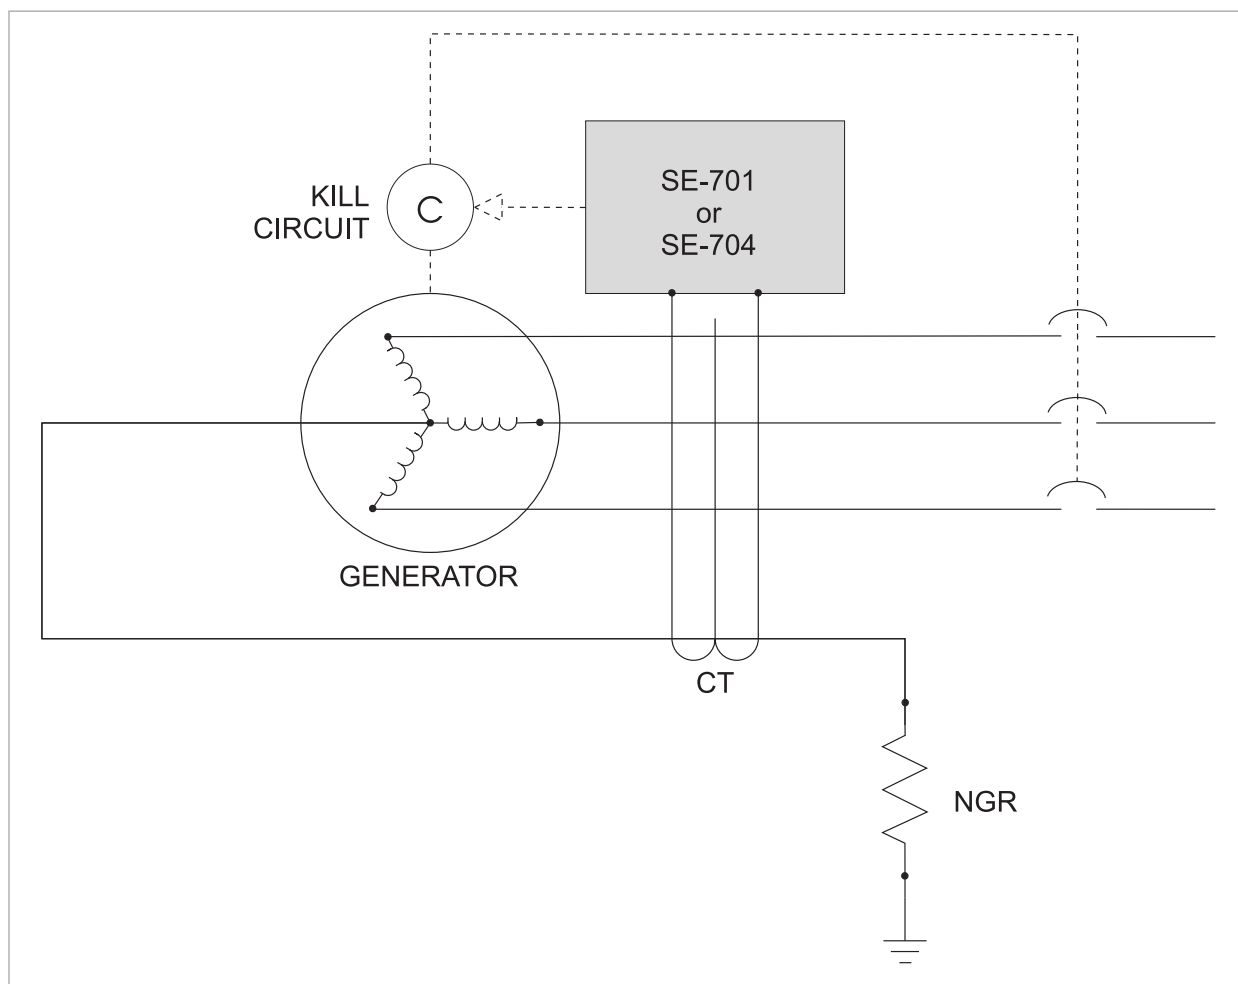

Figure 1: Differential Self-Balancing Ground-Overcurrent Protection Circuit
To detect a ground fault in the generator windings, phase and neutral leads are passed through a current-transformer (CT) window positioned close to the generator output terminals. As shown in Fig. 1. The CT is connected to a protective relay such as a Littelfuse Startco SE-700-series Ground-Fault Monitor.